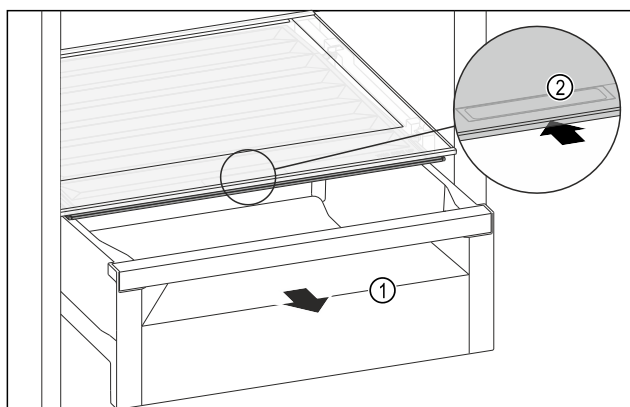

Fig. 132
- Pull out the drawer Fig. 132 (1).
- Grasp the recessed grip Fig. 132 (2) on the compartment lid and push the compartment lid backwards at the same time.